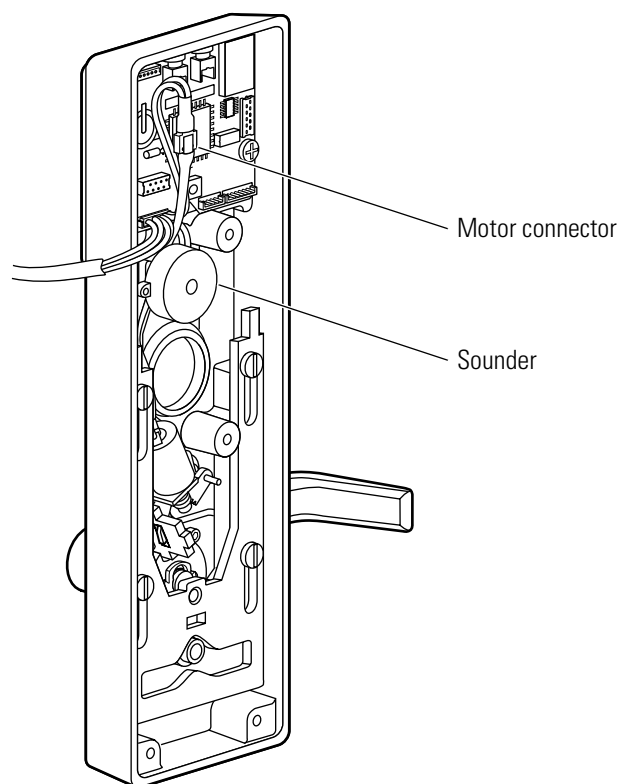

Figure 10.9 Reinstalling the motor assembly
5. Reinstall the sounder onto the escutcheon. See Figure 10.9.